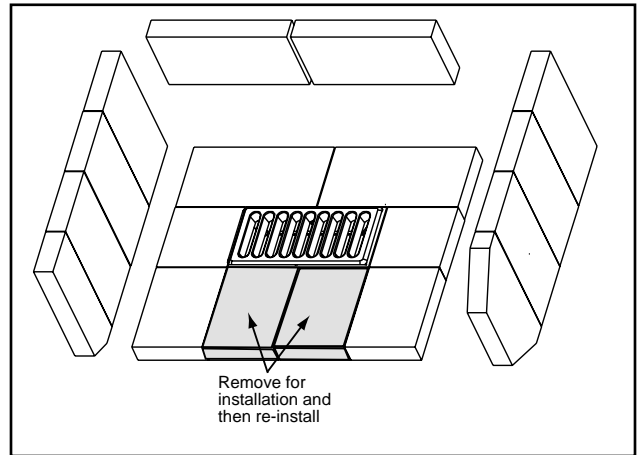

Figure 21.1
1. Remove 2 bricks as shown in **Figure 21.1**